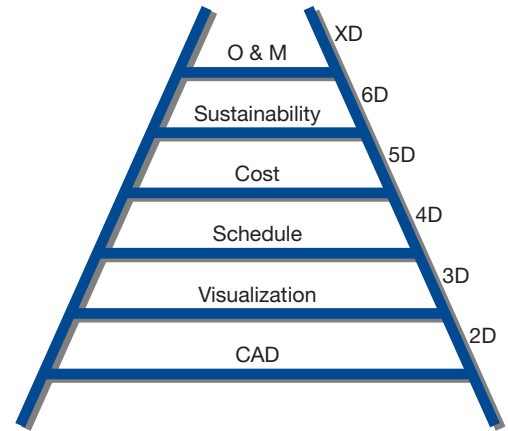

Figure 5.9 Climbing the BIM ladder. How can you make the model work for you on multiple levels?
**PR:** Because communication is so much better due to improved project visualization, we as builders are able to achieve closer to what the original design intent was meant to be than before we made this technology change. In the past, design intent wasn't met not because it couldn't be met but because it was misunderstood. Now, with the level of communication and understanding as high as it is due to these technologies, it's a lot easier for us to truly dissect and build to the design intent. (See Figure 5.9.)